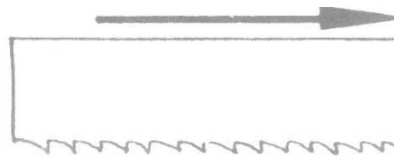

Fig. 6.
- Insert the new blade first between the guides and then onto the rubber-coated pulleys with the teeth facing as shown in fig.6.